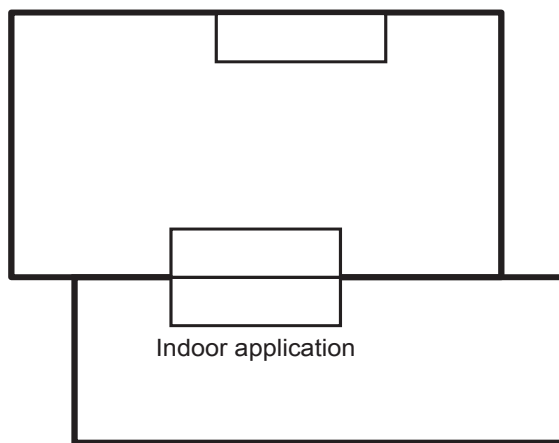
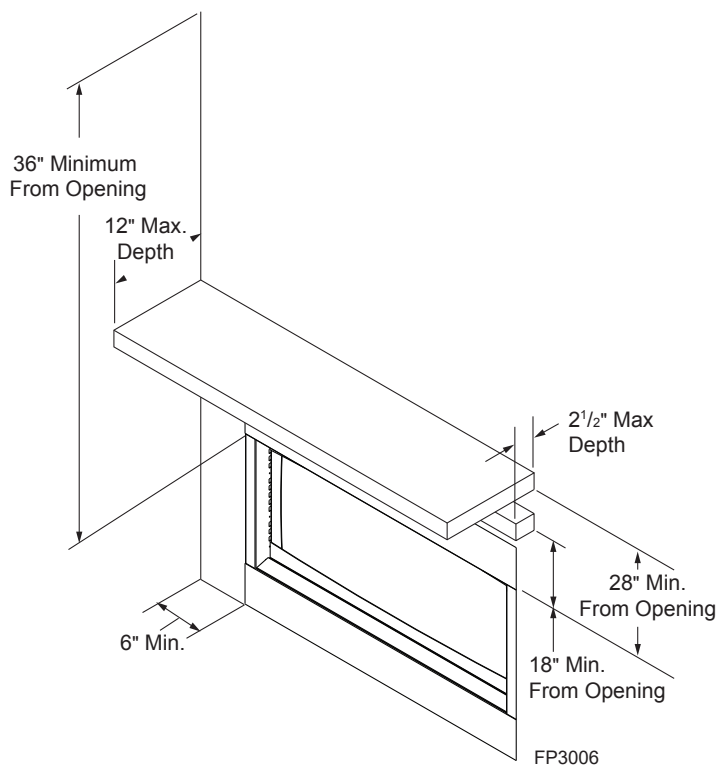

Figure 5. Possible Fireplace Locations
Figure 6. Sidewall and Ceiling Clearances
1. Position fireplace in desired location. Refer to the Fireplace and Framing Dimensions (page 6, Figures 2 and 3,) Fireplace Location (page 9, Figure 5) and Clearances and Height Requirements (page 9, Figures 6 and 7.)
- Minimize modifications to existing construction. Refer to Figure 5 below for location suggestions.
Ensure that minimum clearances shown in Figures 6 and 7 are maintained. Left and right clearances are determined when facing the front of the firebox.
**Sidewall Clearances** — The clearance from the inside of the appliance to any combustible adjacent wall should not be less than 6". Figure 6
**Ceiling Clearance** — The ceiling must be at least 36" from the firebox opening. Figure 6
**The dimensions shown in Figures 5 and 6 are minimum clearances to maintain when installing this heater. Left and right clearances are determined when facing the front of the heater.**
**Mantel clearances** — Must meet the clearance requirements detailed in Figures 6 and 7.